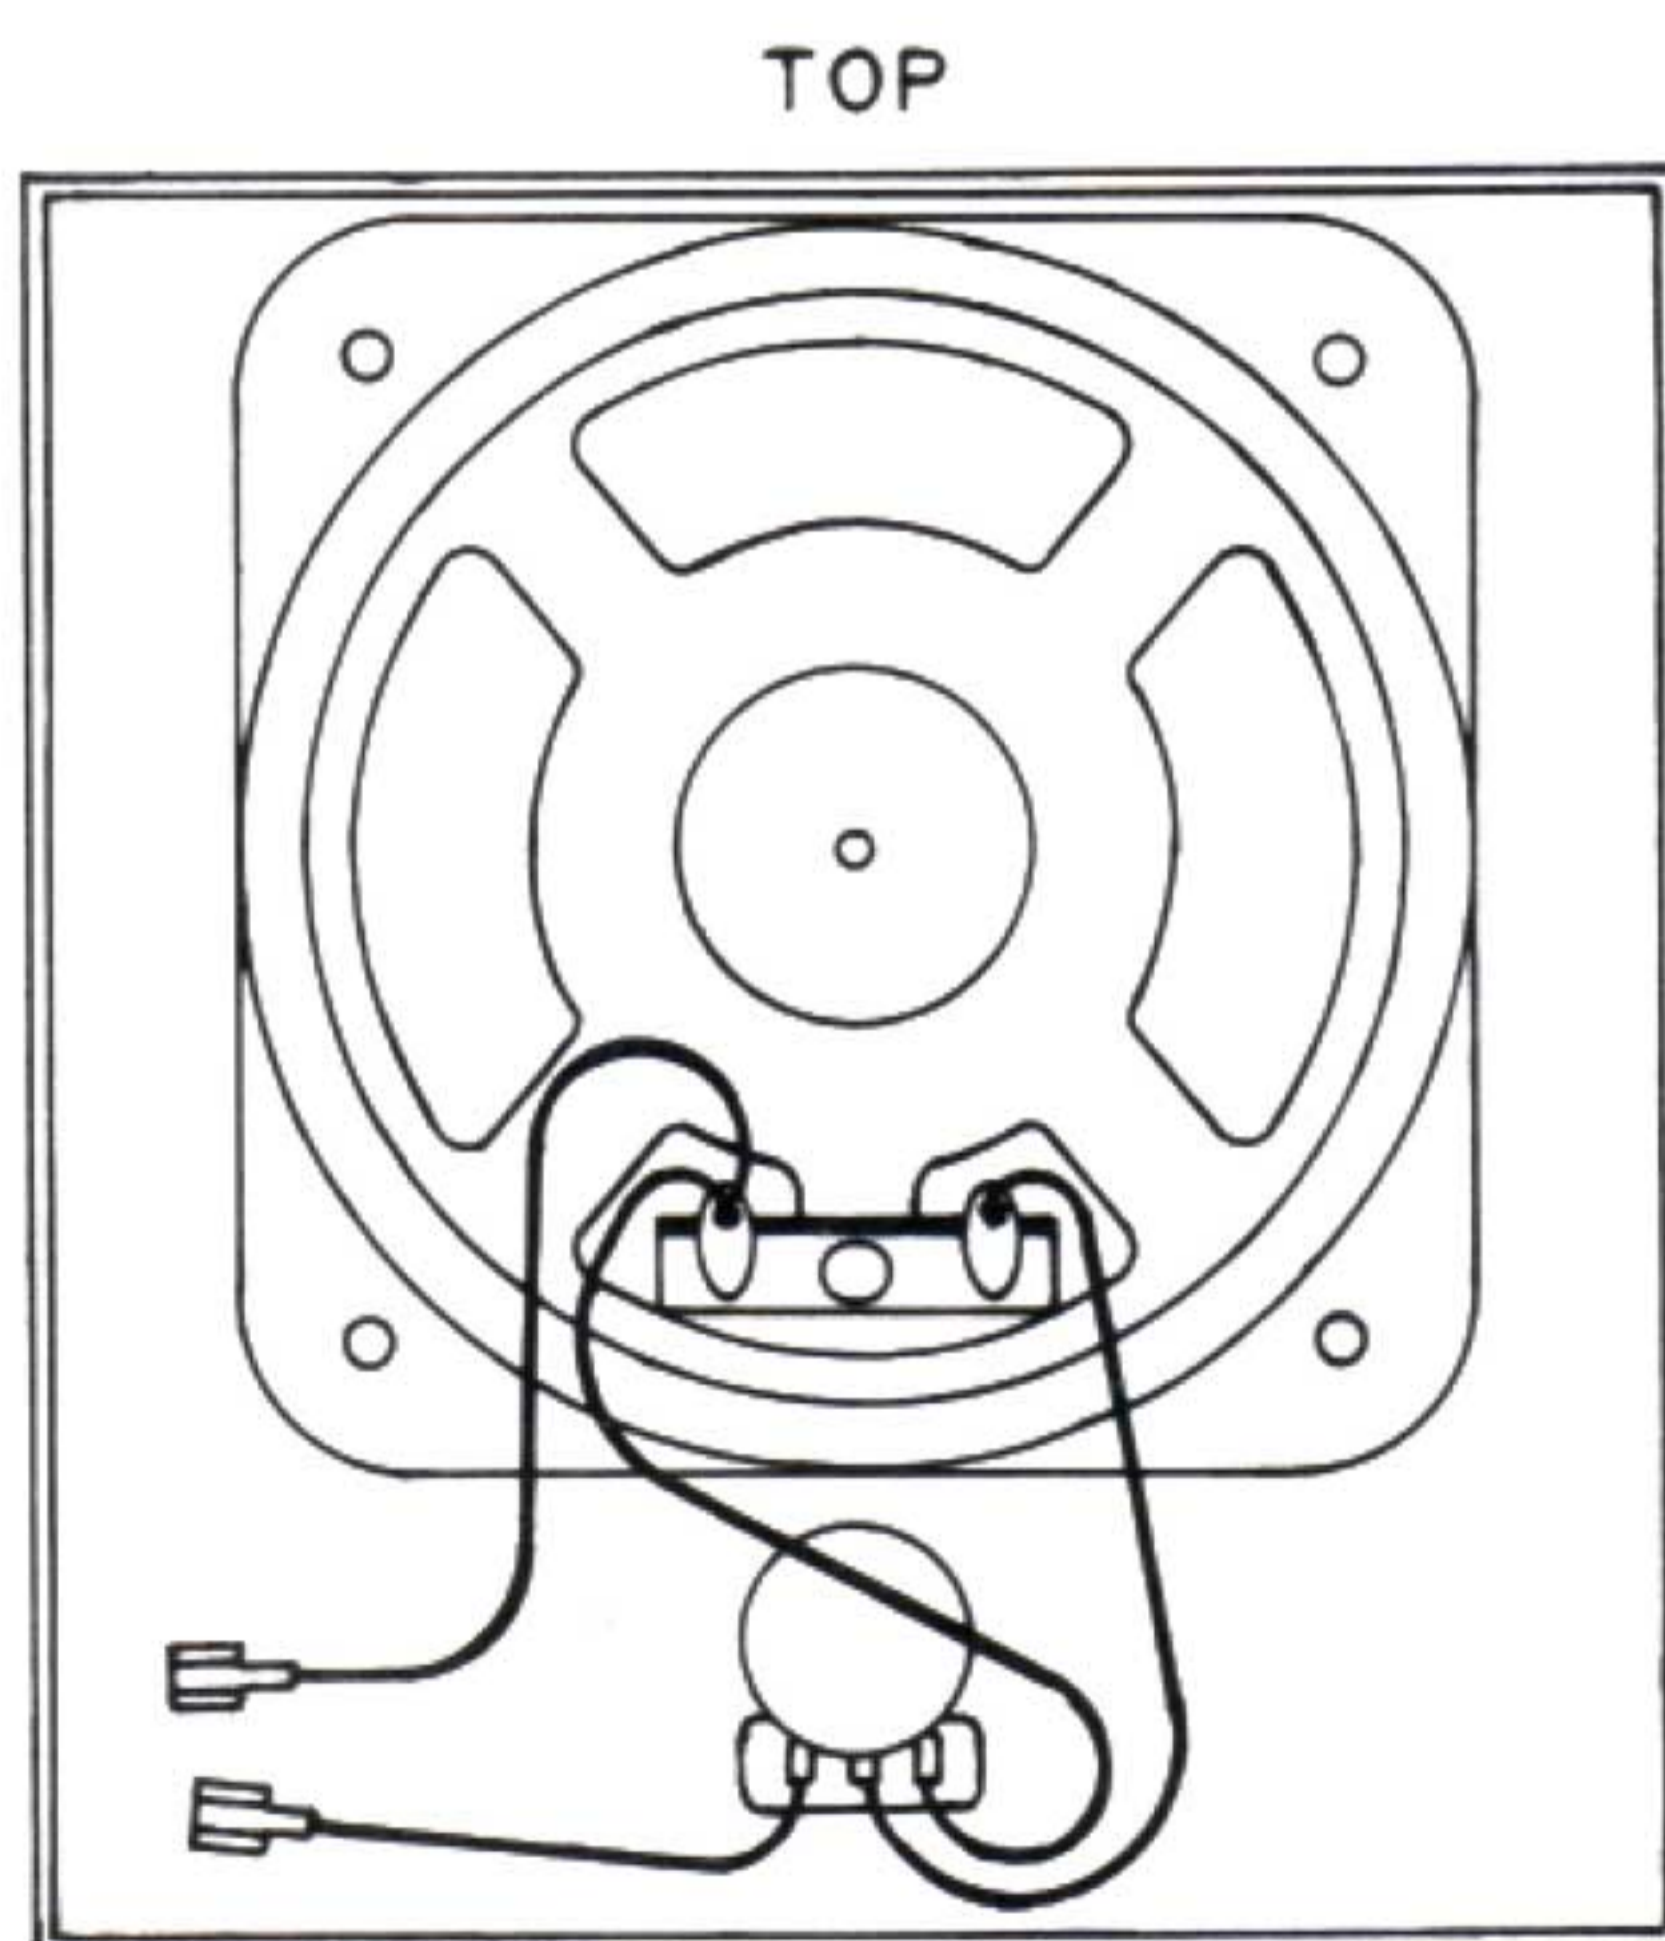

Figure 1 - Mounting MSK-1 Monitor Speaker
6. Mount the MSK-1 monitor speaker on the bezel with four No. 6-32 nuts. Position the speaker as shown in figure 1 so that it will clear the amplifier chassis.
7. Mount the monitor speaker behind the bezel using four No. 6-32 nuts. Position the speaker as shown in figure 1 to enable it to clear the amplifier chassis.